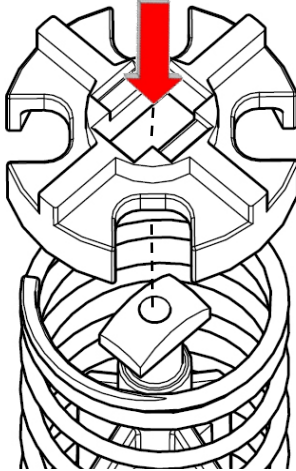

Figure 4
1. Using needle nose pliers, place the bypass valve retainer on top of the bypass valve spring. Carefully align the slot in the top of the bypass valve retainer with the locking tab on top of the bypass valve (Figure 4).